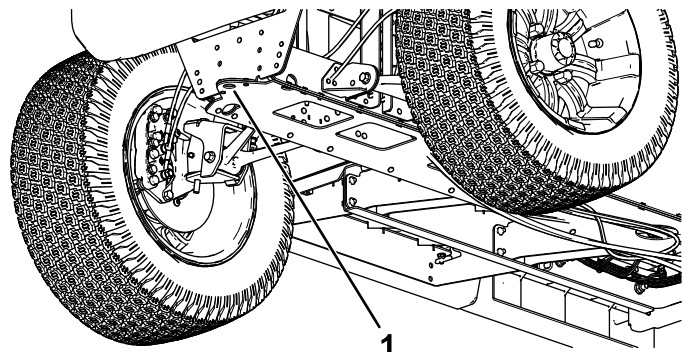

Figure 28
- The lifting point at the front of the machine is located at the front of the frame, behind the towing tongue (Figure 28).